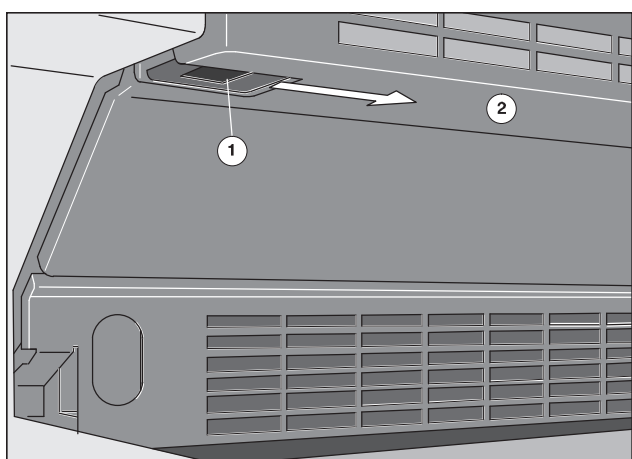

Fig. 78 Removing the dampening solution pan
3. Press the locking devices (here O.S., Fig. 78/1) at the guard under the dampening system (Fig. 78/2) on both sides towards the press center and fold the guard downwards.